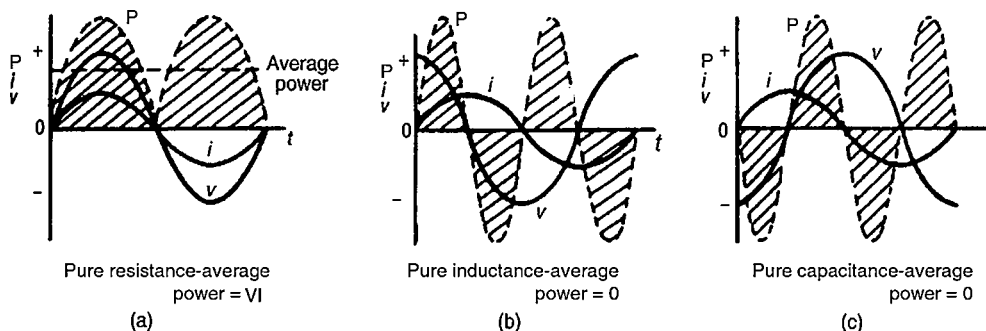

Figure 15.23
In Figs. 15.23(a)–(c), the value of power at any instant is given by the product of the voltage and current at that instant, i.e. the instantaneous power,  $p = vi$ , as shown by the broken lines.
- (a) For a purely resistive a.c. circuit, the average power dissipated,  $P$ , is given by:  $P = VI = I^2R = V^2/R$  watts ( $V$  and  $I$  being rms values) See Fig. 15.23(a)
- (b) For a purely inductive a.c. circuit, the average power is zero. See Fig. 15.23(b)
- (c) For a purely capacitive a.c. circuit, the average power is zero. See Fig. 15.23(c)